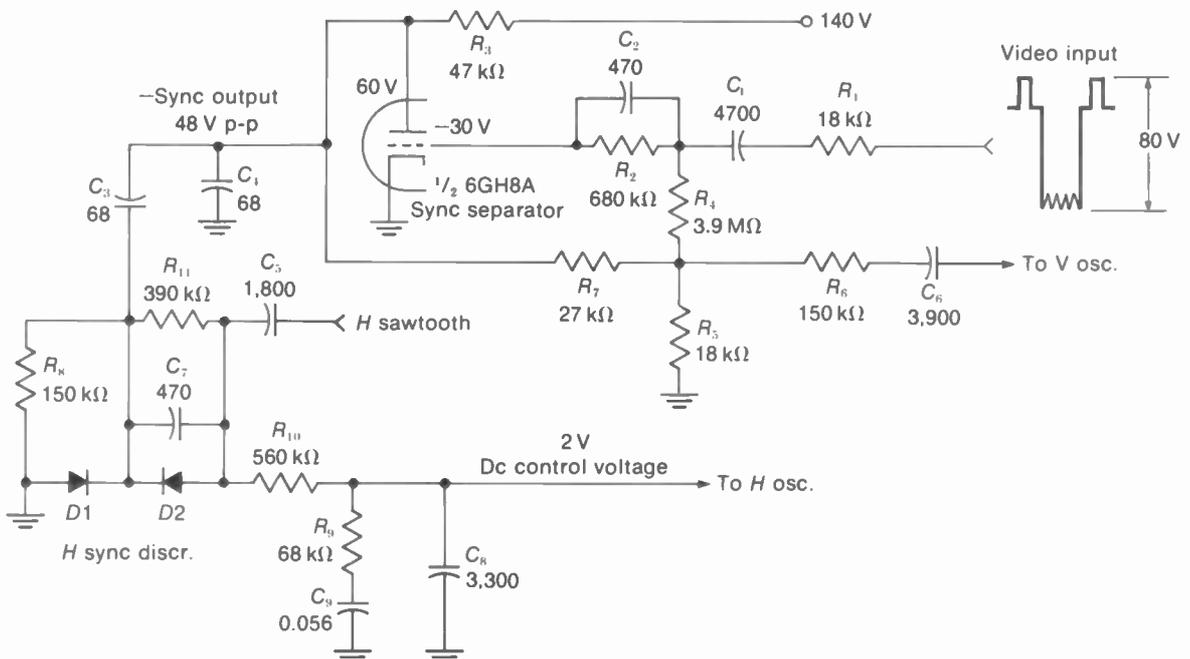

FIGURE 16-26 TRIODE SYNC SEPARATOR CIRCUIT WITH SINGLE-ENDED SYNC DISCRIMINATOR. R VALUES IN OHMS. C VALUES MORE THAN 1 IN pF OR LESS THAN 1 IN μF.
**Triode separator with single-ended sync discriminator.** In Fig. 16-26, composite video with positive sync polarity is coupled from the output of the video amplifier to the input of the triode sync separator. The 47-kΩ  $R_3$  is the plate-load resistor that develops clipped sync of negative polarity. The sync output is coupled by  $C_6$  to the integrator for the vertical deflection oscillator.
6. A common circuit for the sync separator uses a triode tube or transistor with signal bias beyond cutoff (Fig. 16-26).
13. In Fig. 16-26, the diodes *D1* and *D2* form an unbalanced sync discriminator with negative sync voltage input.